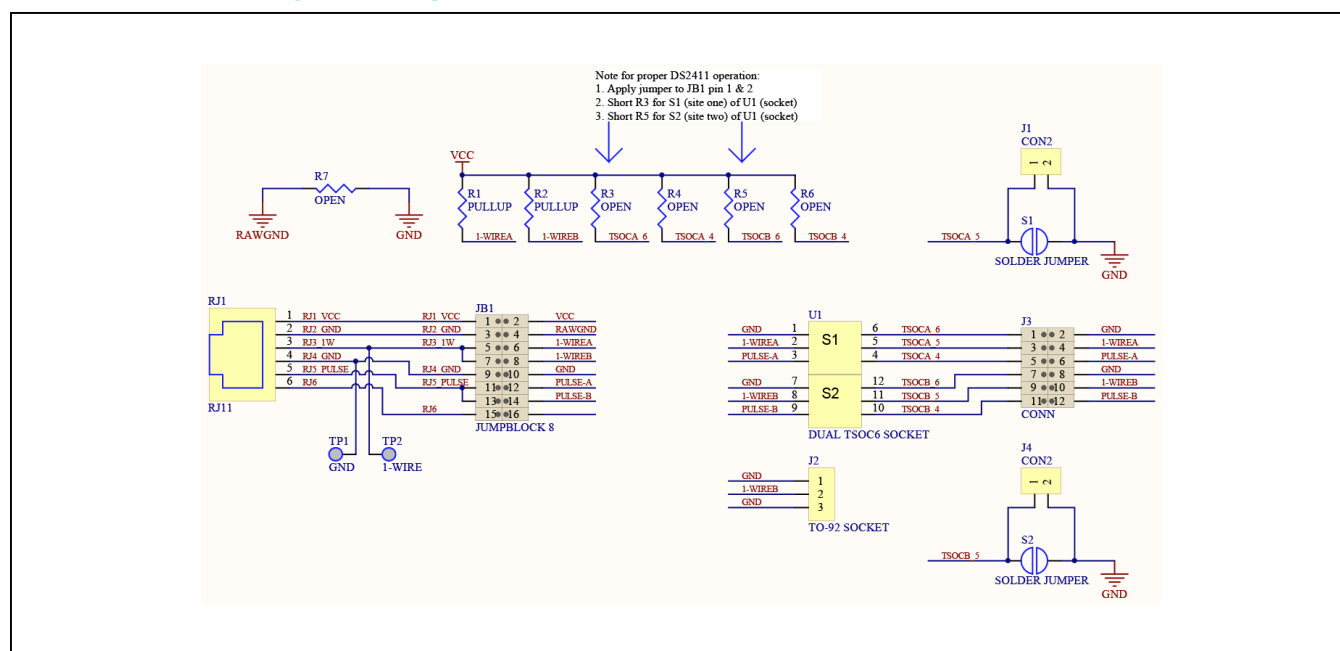

Figure 9. DS9120P+ Socket Board Schematic
- b) Note that when evaluating a DS2413P device, jumpers J1 and J4 are to be populated. For all other 1-Wire slave devices, do not populate J1 or J4 with a jumper. When using the DS2413P in socket S1, the user can populate R3 and R4 with 10kΩ pullups; otherwise, these need to be added externally. PIOA can be observed on J3:1 and PIOB can be observed on J3:5. See Figure 9 for resistor and pin location.